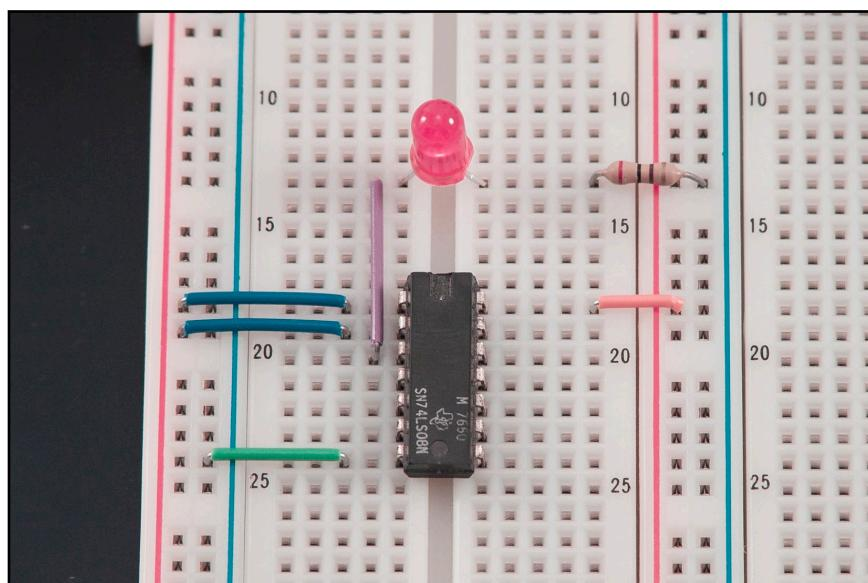

Figure 3.16 Using AND With an LED
3. Turn on the power, wait a few nanoseconds for the signal to propagate, and the LED should light up (Figure 3.16). Since both Input A and Input B are high, the output will also be high and the LED will be powered on.
2. Using the circuit from Figure 3.16, hook the output of the AND gate to an input of the OR (pin 1). The other OR input (pin 2) should be connected directly to power or ground to simulate the light switch being on or off.